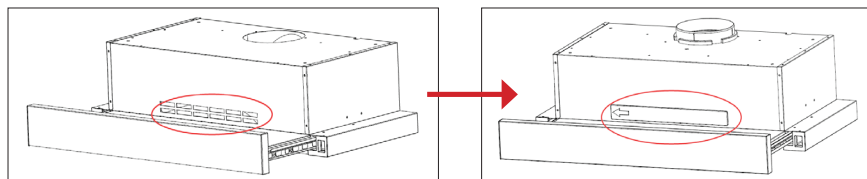

Fig. 5
- When choosing the outdoor exhausting mode, you can cover the front outlet (part ID 9) with the white plastic cover. (fig. 5).